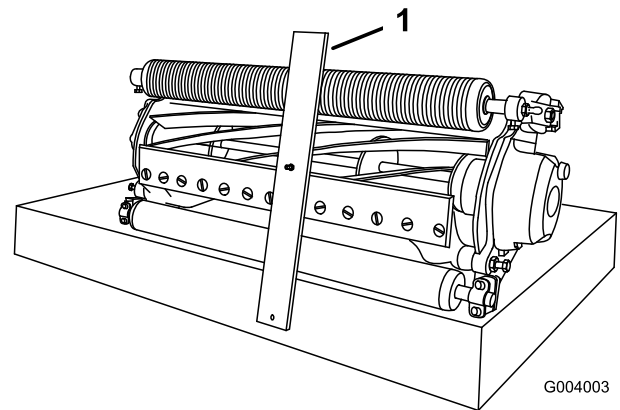

Figure 16
3. Hook the screw head onto the cutting edge of the bedknife and rest the rear end of the bar onto the rear of the roller (Figure 16).